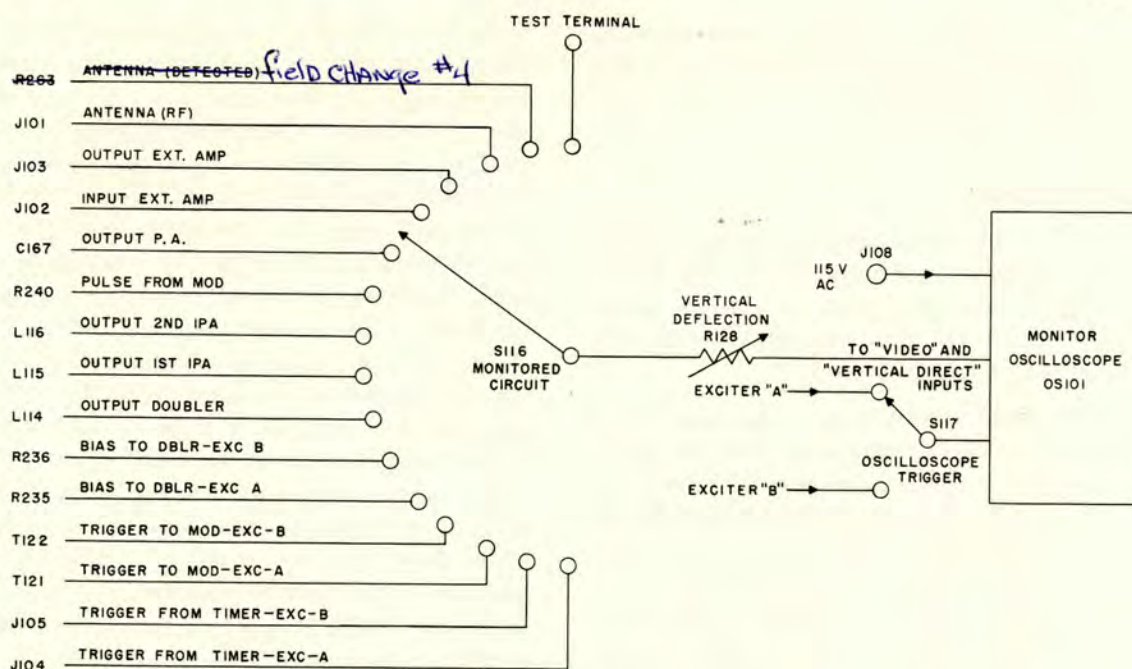

Figure 2-11. Functional Diagram of Monitor Oscilloscope Input Switching
a. GENERAL. — A functional diagram of the switching circuits associated with the monitor oscilloscope is shown in figure 2-11. (Complete circuit details are included on figure 7-38.)
As indicated in figure 2-11, sample voltages from any one of 15 circuits in the transmitter, the antenna coupling unit, and an external 1,000-kw amplifier (if such is used) may be connected to the vertical input
It will also be noted in figure 2-11 that there are two switch positions which are labelled individually INPUT EXT. AMP. and OUTPUT EXT. AMP. and are shown as connected to J102 and J103, respectively. These are provided for use in higher power installations which include an external r-f power amplifier such as the Coast Guard Model T-138 or T-138A. In such installations, connectors J102 and J103 are connected to the external amplifier so that its input and output pulses may be checked on the T-325B/FPN transmitter oscilloscope by using the appropriate switch positions. Pulse monitoring for the complete system is thereby accomplished in the one oscilloscope unit. Further details on external amplifier pulse monitoring are included in the manual for the T-138 amplifier.
b. CIRCUIT DETAIL. — Switch S116 and potentiometer R128, shown in simplified version on figure 2-11, are shown in detail on figure 7-38 as a five-gang rotary switch and dual potentiometer, respectively. Separate sections of S116 are utilized for switching r-f, video, and ground connections, and separate sections of R128 are used for controlling the amplitude of the r-f and video monitor signals.